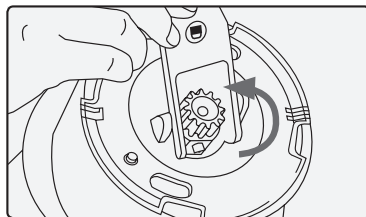

Figure 22
4. Turn the clamp 180° to a closed position, ensuring that it is fully locked (Figure 22).